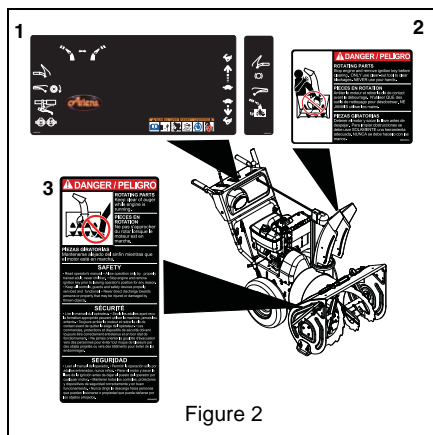

Figure 2
**ALWAYS** replace missing or damaged Safety Decals. Refer to Figure 2 below for Safety Decal locations.